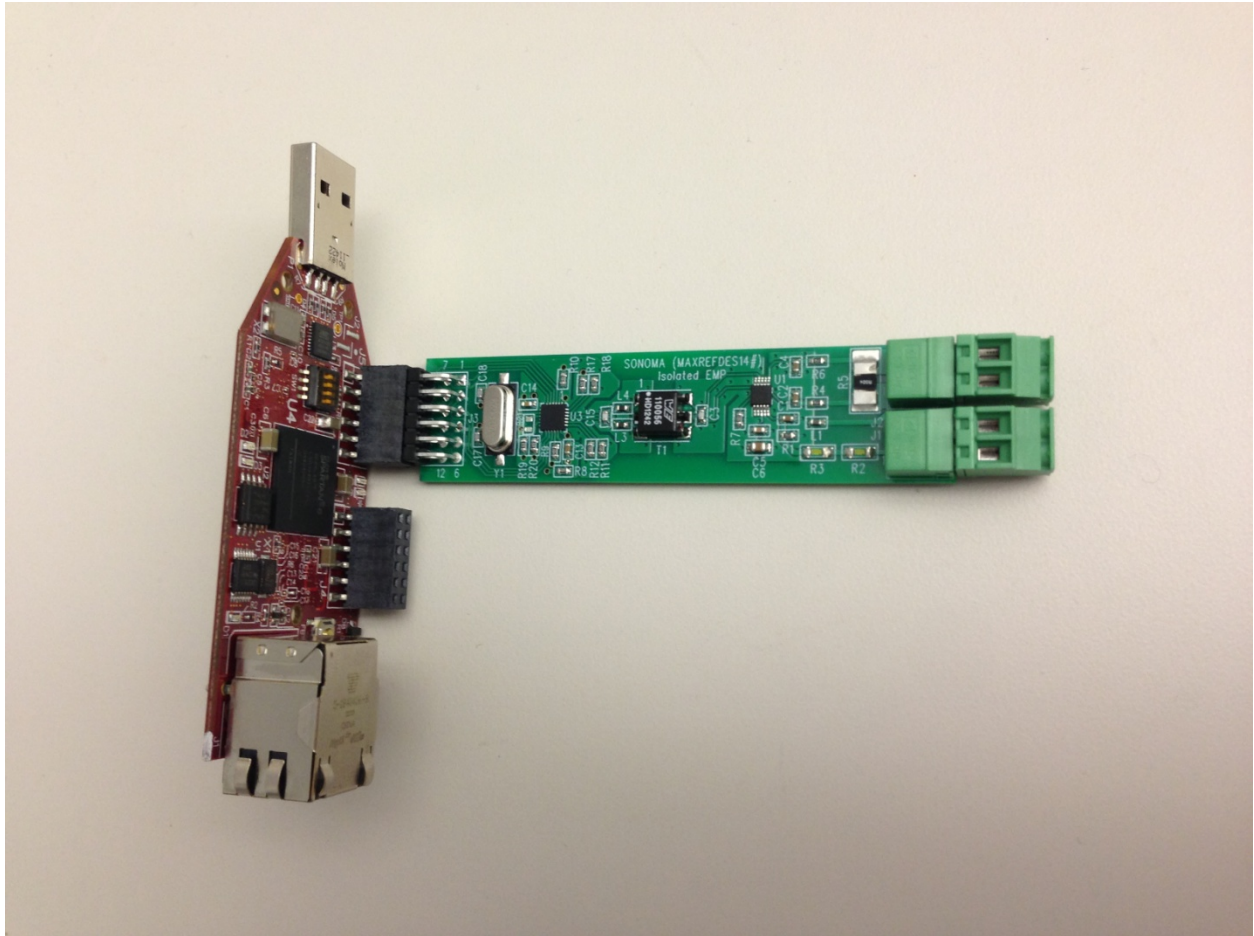

Figure 1. Sonoma Board Connected to LX9 Kit
1. Connect the Sonoma board to the J5 port of a LX9 MicroBoard as shown in Figure 1. Ensure the connector is aligned as shown in Figure 2.
1. Connect the Sonoma board to the JB1 port of a LX9 MicroBoard as shown in Figure 1.